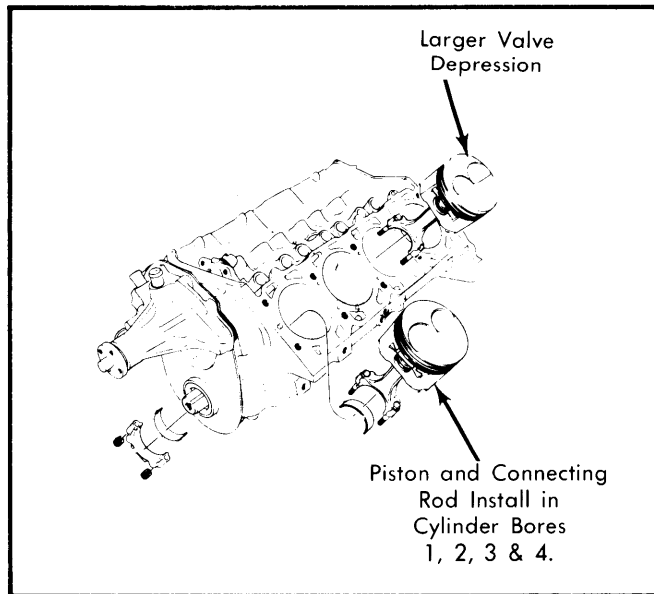

Fig. 8 Piston Location
2) On cylinders 1, 2, 3 & 4, the larger valve depression goes toward the front of engine. On cylinders 5, 6, 7 & 8, the larger depression goes toward rear of engine. See Fig. 8.